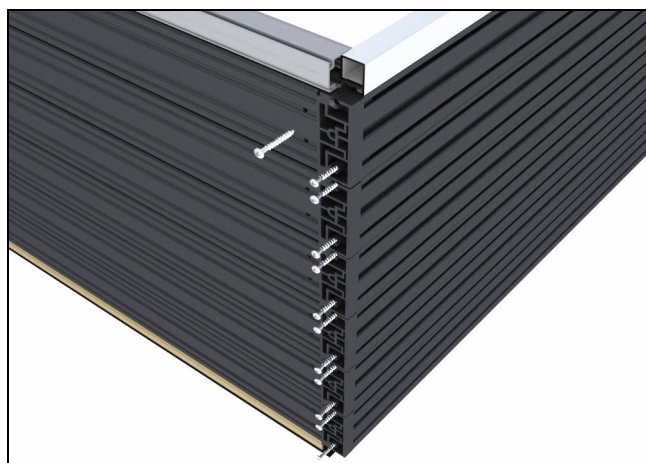

Figure 55
6. Align side jamb to sill by sliding corner keys into sill. Fasten side jamb and sill through corner keys using two #8 x 1 3/4" pan head screws per key. See figure 55.